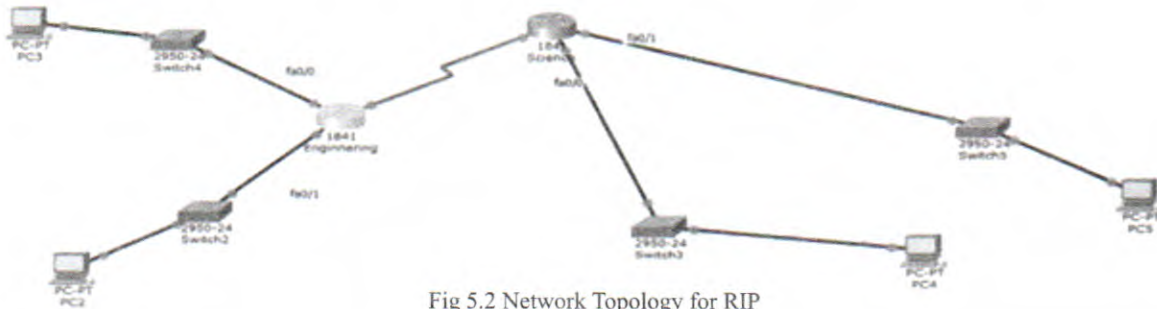

Fig 5.2 Network Topology for RIP
1. Arrange the network topology shown in Figure 5.2 on your packet tracer
Table 5.2 IP Addresses for Devices in Figure 5.2